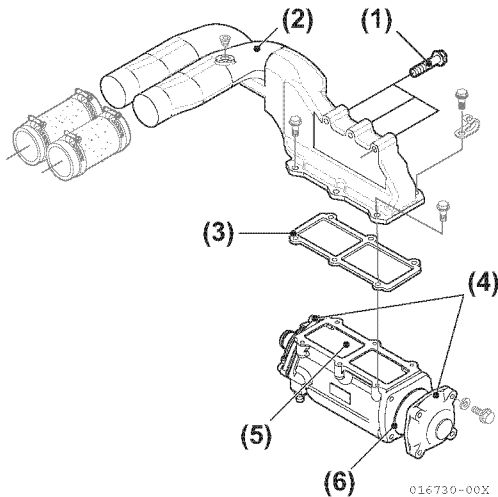

Figure 7-21
1. Loosen bolts (**Figure 7-21, (1)**) and remove intercooler from cooling freshwater cooler. See *Remove the intercooler (only for 4JH4-HTE) (Figure 5-21): on page 5-36.*
2. Remove air duct assembly (**Figure 7-21, (2)**) and gasket (**Figure 7-21, (3)**).
3. Remove water box A and B (**Figure 7-21, (4)**).
4. Disassemble, inspect, and clean intercooler assembly (**Figure 7-21, (5)**) and change as necessary. *NOTICE: NEVER use caustic soda to clean the components. Use paraffin-based engine detergent to clean the cooler element. Thoroughly flush and rinse all components.*
6. Install new O-rings (**Figure 7-21, (6)**) on water boxes.